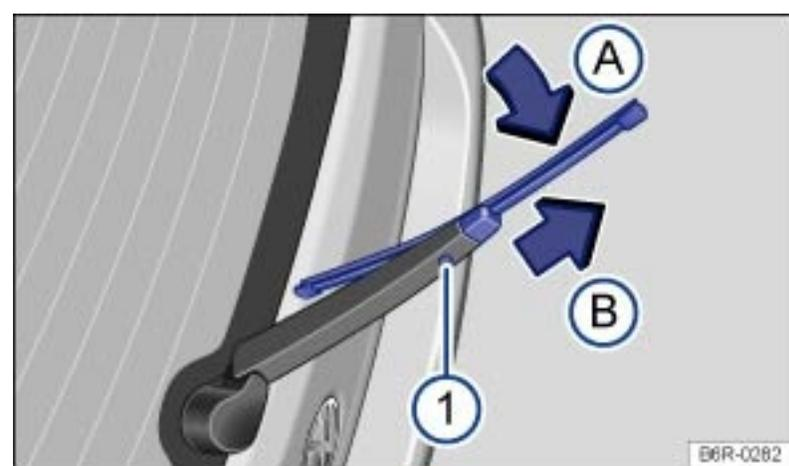

Fig. 197 Changing the rear window wiper blades.
- ▶ Press and hold the release button → Fig. 197 ① .
- ▶ While lifting the wiper blade in the direction of the wiper arm → Fig. 197 (arrow ①), pull off the wiper blade in the direction of the arrow ②. This may require moderate force.
- ▶ Install a new wiper blade of the same length and type onto the wiper arm by pushing in the opposite direction of the arrow → Fig. 197 ② until it latches.